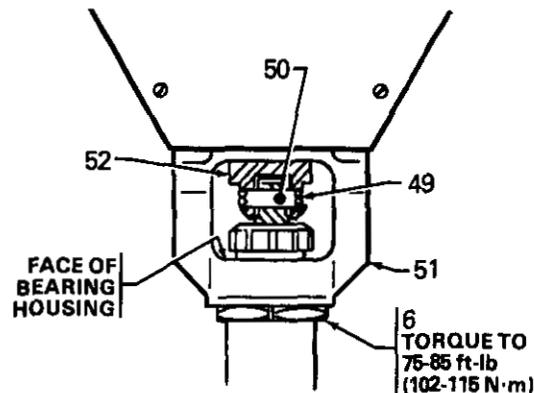

Fig 13
14. Install the screws (9) and lockwashers (10) on the bearing housing and tighten evenly.
15. Screw the displacement pump about 3/4 of the way into the bearing housing (51). Hold the pin (50) up to the pin hole in the connecting rod assembly (51) and continue screwing in the pump until the pin slides easily into the hole. Back off the pump until the top threads of the pump cylinder are flush with the face of the bearing housing and the outlet nipple (32) is facing back. Push the retaining spring (49) into the groove all the way around the connecting rod. Tighten the locknut (6) very tight—about 75-85 ft-lb (102-115 N·m)—with a 2 in. open end wrench and a light hammer. See Fig 13.
Be sure the retaining spring (49) is firmly in the groove of the connecting rod, *all the way around*, to prevent the pin (50) from working loose due to vibration. See Fig 13.